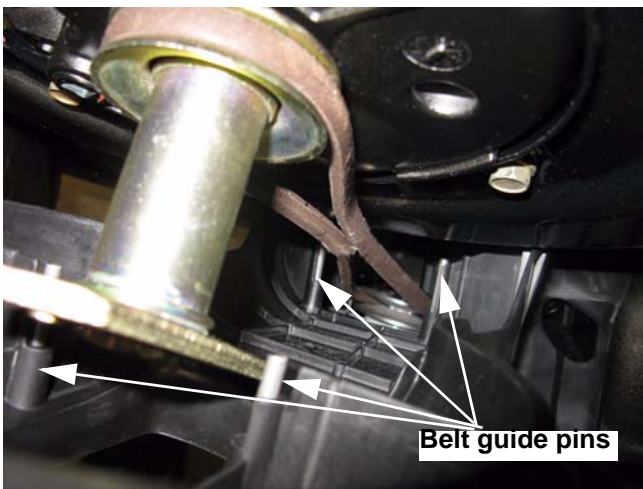

Figure 2.19
7. Install the lower belt cover, being careful to route the belt inside of all four metal belt guide pins that are molded into the cover. See Figure 2.19.